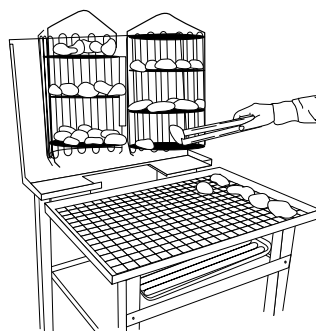

FIGURE 19
9. **Unload Basket** (Figure 19). Place cooked products on corrugated tray and turn cavity (bone) down where applicable. Place tray in holding cabinet.